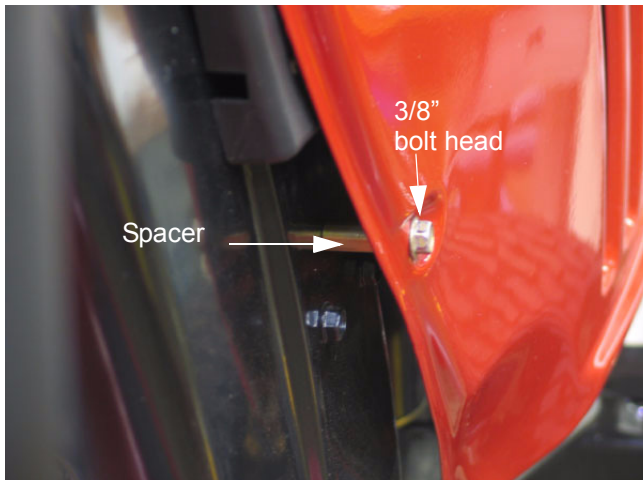

Figure 16.4
- 16.4. A spacer fits between the dash and the side panel, around the lower rear bolt that fastens the side panel to the dash. See Figure 16.4.